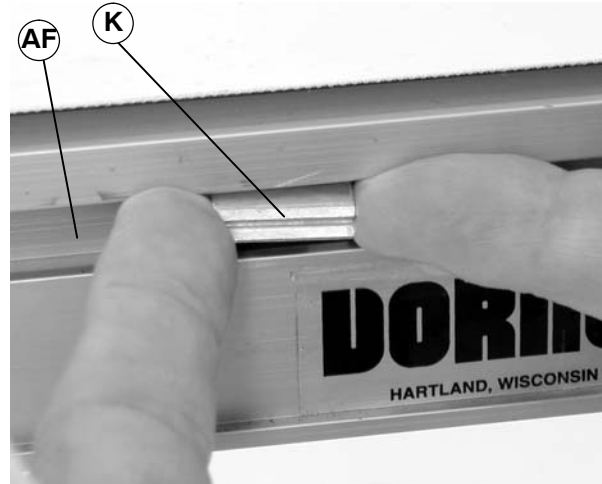

Figure 11
- a. Roll a drop-in t-bar (K of Figure 11) into conveyor t-slot (AF).